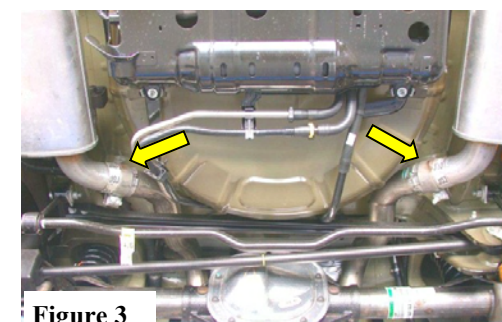

Figure 3
3. Loosen the clamps located just in front of each muffler assembly. (See Fig. 3)